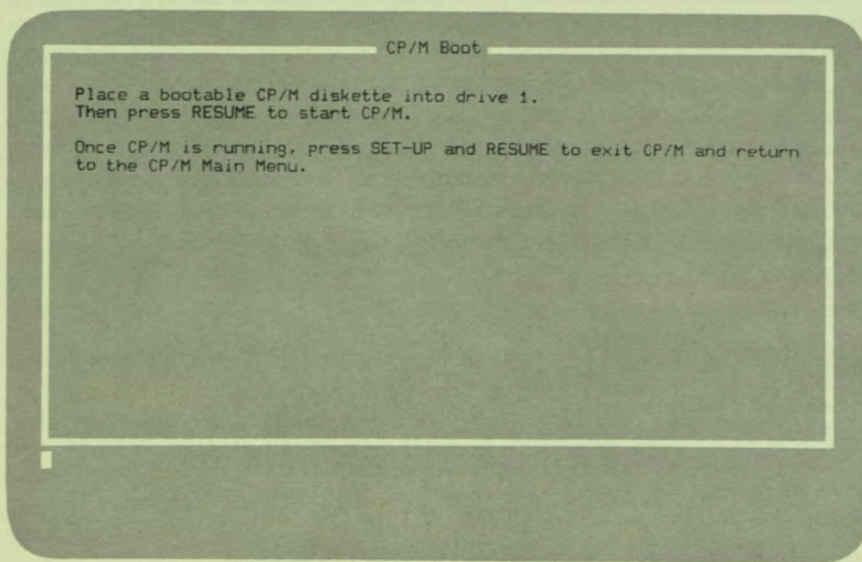

Figure 1-6
2. Press DO. The CP/M Boot screen (Figure 1-6) appears.